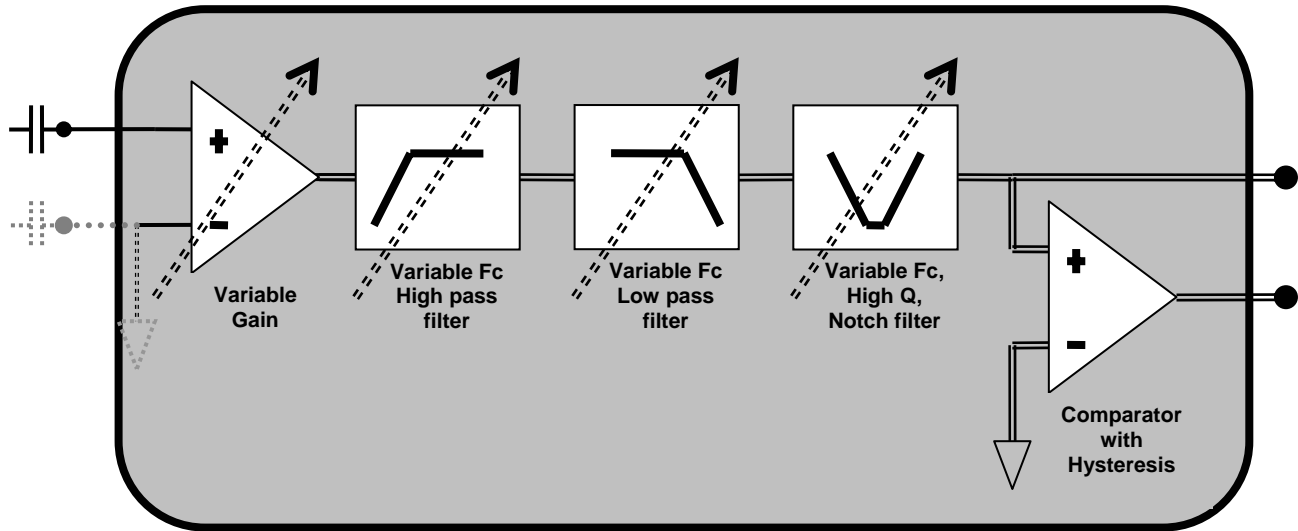

Fig 1: Universal analog baseband processing circuit
- the universal baseband processing circuit, (see section 1.1, Fig 1) and